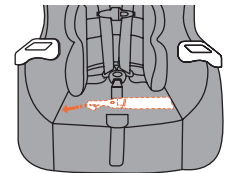

Fig. 28a
- Route **LATCH** Lower Anchor through the rear facing belt paths and under the seat fabric (Fig. 28a).